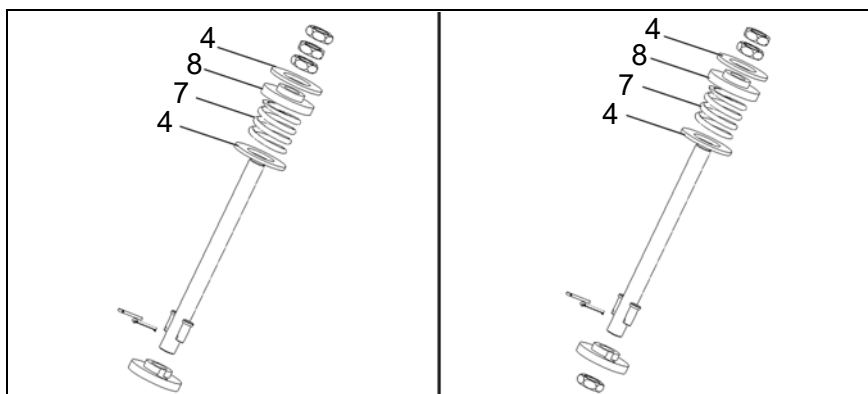

Fig. 12
2. Remove the individual parts (4, 7, 8, Fig. 12).
4. Assemble the threaded rod as shown in Fig. 12.
Figure 12 left – Bottom Mount.
Figure 12 right – Top Mount.